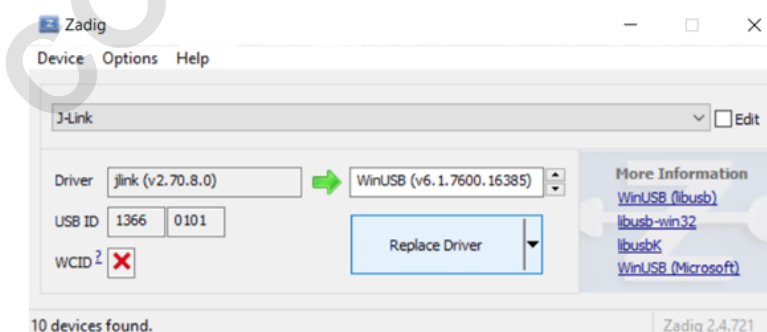

Figure 9 - Zadig Driver Replacement
- Figure 9 - Zadig Driver Replacement